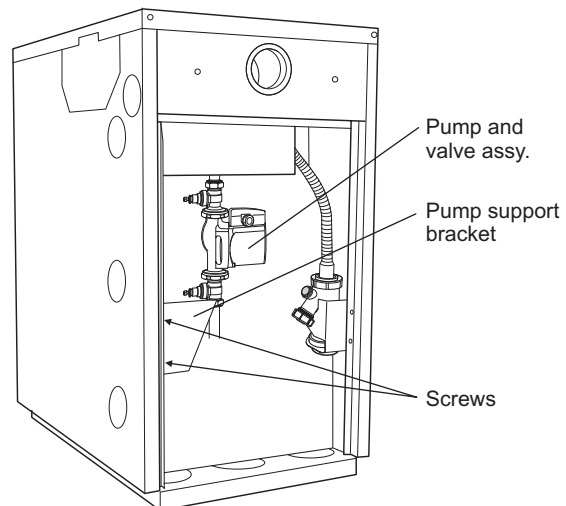

Fig. 19 - 15/21 rear view (showing pump assembly)
- 9 Fit the pump support bracket, with the screws provided, using the two holes in the left hand side panel flange (viewed from rear of boiler as shown in Fig. 19).
- 10 Fit the pump/pump valve assembly to the end of the pressure relief valve/auto air vent manifold pipe. Ensure that the pump shaft is horizontal and the pump motor is facing towards the right side of the boiler (viewed from the rear as shown in Fig. 19). The flow arrow on the body of the pump must face in the required direction of flow – away from the boiler flow connection – downwards in this case.